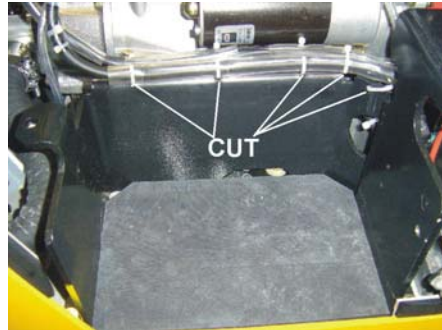

Figure 7. Tie Wrap Removal
8. Cut the tie wraps (Figure 7) that are secured to the battery box (support plate).